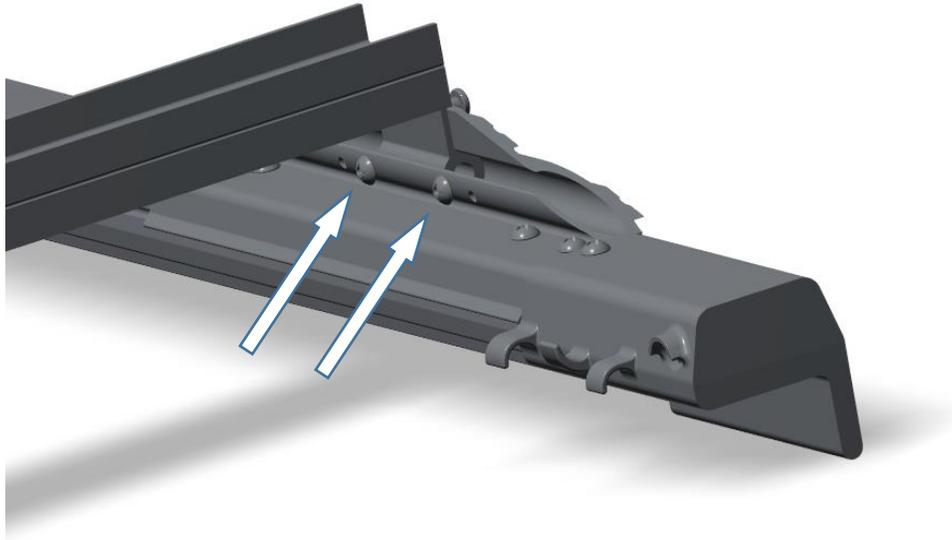

Figure 7: Secure fixture from sliding movement by tightening the containment screws
3. Use the included #8-32 x 1/4" Thread Cutting screws to contain the Swivel within the Mount Bracket (see Figure 7).